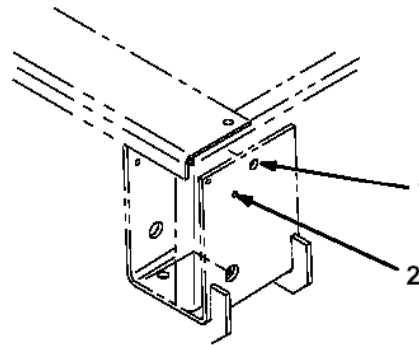

**Figure 4**
7. Remove and discard capscrew, spacer and lock nut securing lift cylinder to frame (Fig. 4).
8. Remove and retain screw securing lift cylinder pin to lift arm (Fig. 4).
9. Remove lift cylinder pin from rear of lift arm (Fig. 4). Move lift cylinder out of the way. Retain lift cylinder pin.